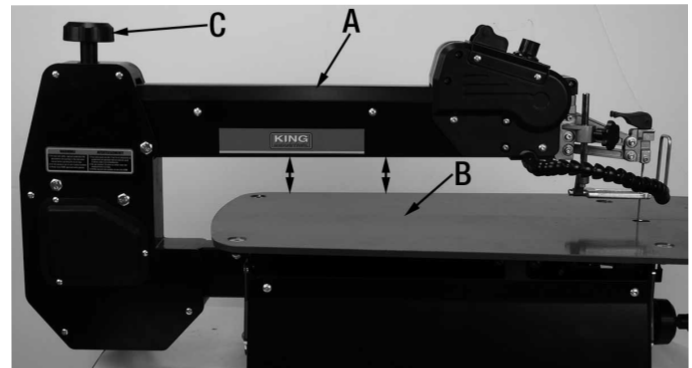

FIGURE 11
- 3) Before installing a new or different blade, make sure the upper arm (A) Fig.11 is roughly parallel with the table (B) by turning the upper arm/ blade tension adjustment knob (C) to raise the arm up or down as needed.
- 3) If the blade is not properly tensioned, it can be fine tuned by rotating the upper arm/ blade tension adjustment knob (C) Fig.11 to raise the arm up or down as needed.
3. Gently lift the upper arm (A) Fig.11 of the scroll saw until it locks in place.